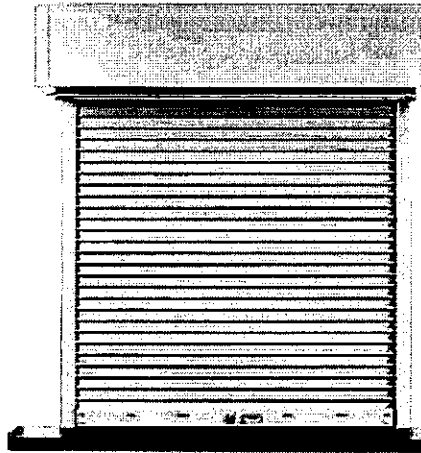

Figure 5: Example of Shutter Door*
- 1.7 The Clean Rooms must be Installed with electrical shutter door for the Class 100000 Clean Room. This include installation for the room which are 8 meters wide and 6 meters high (2 rooms) and for the EMC room which 5 meters wide, 6 meters high (example in Figure 5).